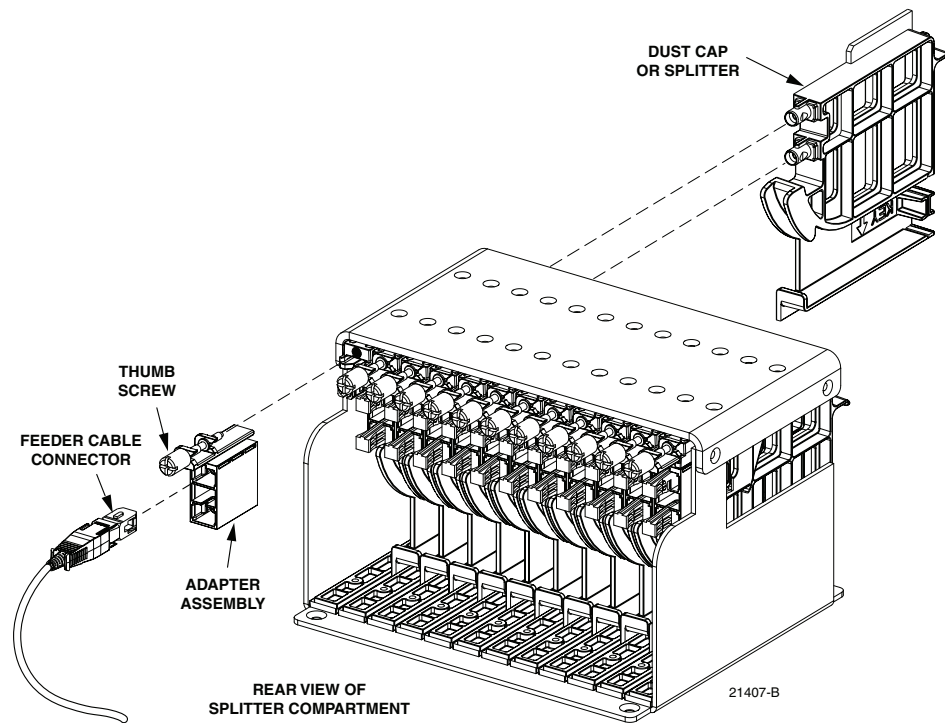

Figure 22. Splitter Compartment Adapter Replacement
3. Remove the feeder cable connector(s) from the rear side of the broken adapter assembly as shown in Figure 22 and install a dust cap on the connector(s).